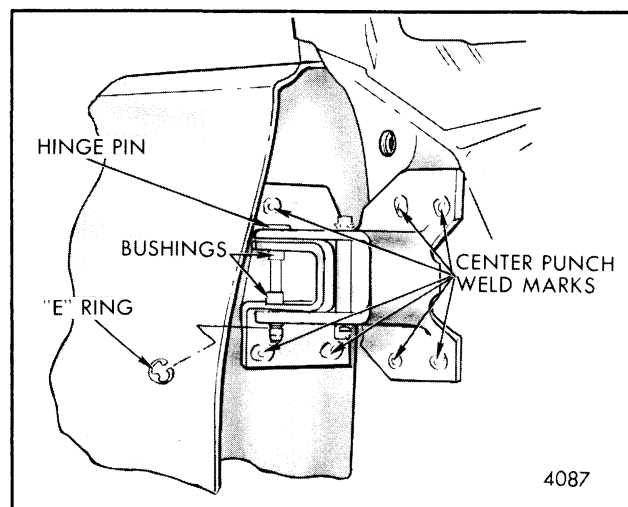

Fig. 5-57-Front Door Hinge "E" Ring Removal
provided for removal of the door assembly from the body. Replacement hinges are serviced as an assembly. **DOOR SIDE** hinges are pierced to permit bolt-on installation into tapped anchor plates. **BODY SIDE** of service replacement hinges **DO NOT** have bolt-on provisions and must be arc-welded to the body hinge pillar. Tapped anchor plates must be used instead of nuts and washers to insure structural integrity when replacing a hinge assembly. Anchor plates are not furnished with the hinge assembly and must be ordered separately. In addition, door side and body side hinge straps, hinge pins, bushings and "E" rings are available as separate service parts. Service replacement hinge assemblies will include a removable pin and "E" ring retainer so that the hinges can be separated for individual door side and/or body side strap replacement (refer to Fig. 5-57).
- Remove "E" ring (snap retainer) from lower end of both upper and lower hinge pins (Fig. 5-57).
4. Center punch visible weld marks on hinge base as shown in Figure 5-57 and drill a 1/8" pilot hole completely through welds at center punch marks.